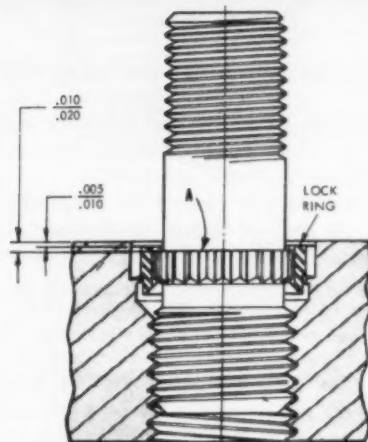

Fig. 3 Ring-locked stud installed properly could cause a loose stud.
► Be sure to install the studs so that the top of the serrated flange is from .010 to .020" below the material surface. This must be done to avoid impact of the lock ring drive tool, which may contact this serrated flange (Figure 3) and transmit the load to the tapped threads in the parent material. This